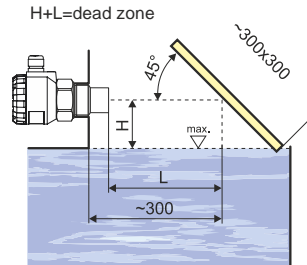

Fig. 15: Reflection board
- To lower the minimum distance to the measured medium, a reflection board made from solid, even and smooth material can be installed to the level meter. Then the tank can be filled nearly up to the maximum height. The solution is suitable for open tanks and reservoirs (Fig. 15).